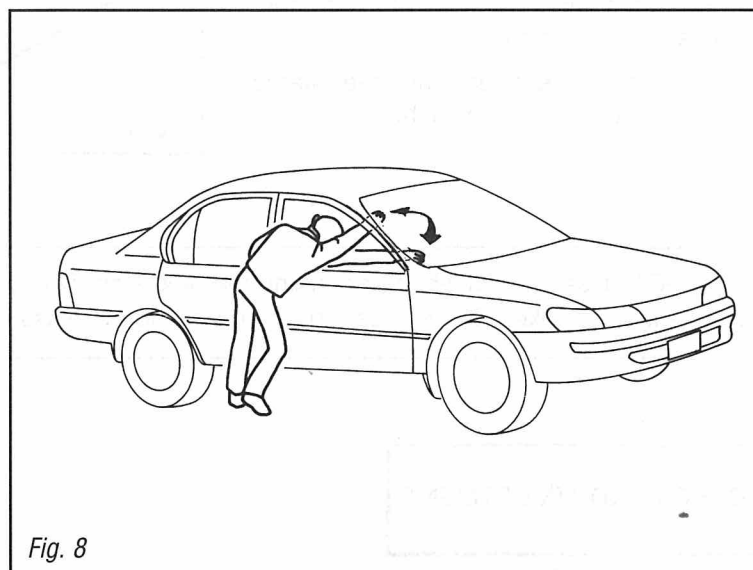

Fig. 8
- 5) Put your hand through the driver's window and then wave your hand sideways across about 30 cm span several times (See figure 8).